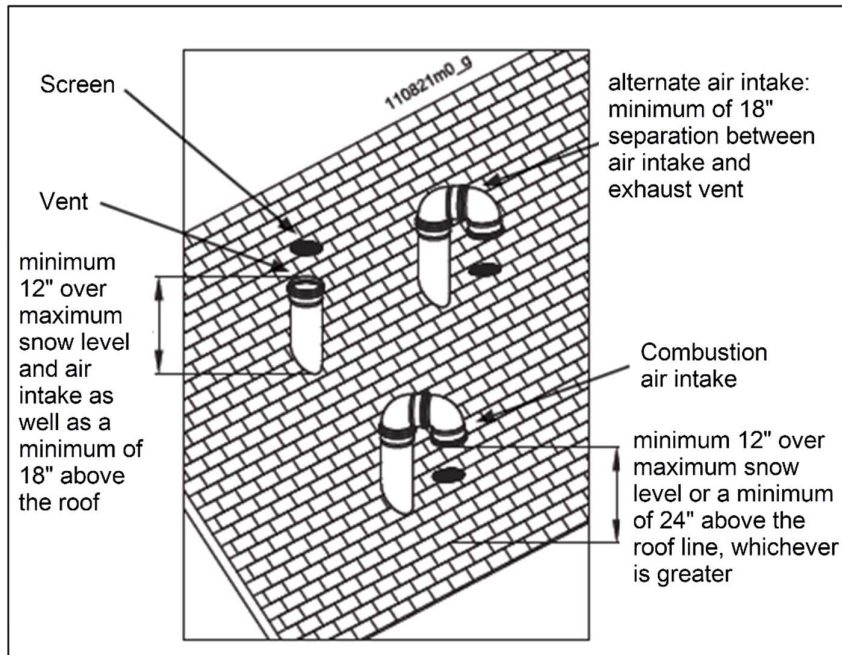

Figure 10.23
2. Prepare the vent termination and the air intake termination elbow (Figure 10.23) by inserting bird screens.
4. The air intake piping must terminate in a down-turned 180° direction utilizing two elbows see figure 10.23
6. Maintain the required dimensions of the finished termination piping as shown in Figure 10.23.
1. When terminating multiple boilers, terminate each vent/air connection as described in this manual (figures 10.23, 10.24 and 10.25).
When two (2) or more direct vent appliances are vented near each other, each appliance must be individually vented (see figures 10.23, 10.24, 10.27 or 10.28) or common vented (see Chapter 11). It is important that vent terminations be installed as shown to avoid recirculation of flue gases.